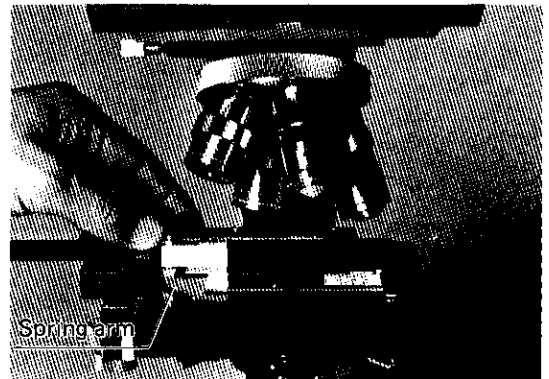

Fig. 4
2. Secure the microslide specimen to be observed to the stage by first retracting the spring arm of the mechanical stage and positioning the microslide within the cradle of the mechanical stage. Gently return the spring arm allowing it to bear pressure on the microslide. (**Fig. 4**)